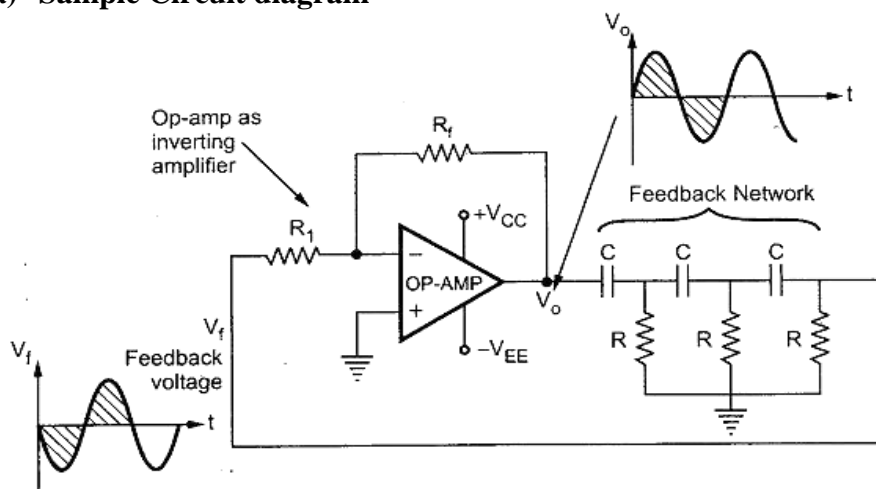

Figure 13.1 Circuit diagram of RC phase shift oscillator
2. Connect the circuit as per the circuit diagram as shown in figure 13.1 .